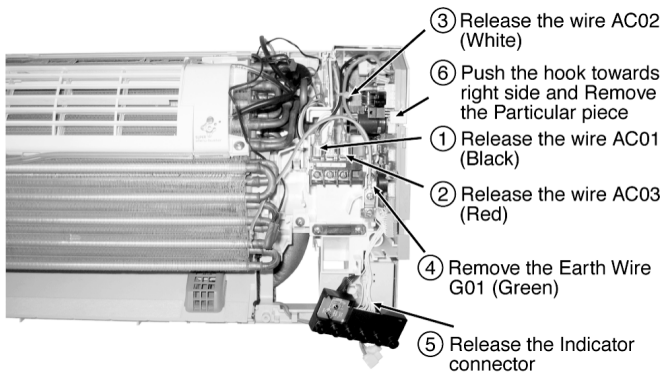

Fig. 6
1. Remove the Control Board Cover by removing the screws (Fig. 6).
6. Remove the Air Guider and Drain Pan complete by removing the screws (Fig. 6).